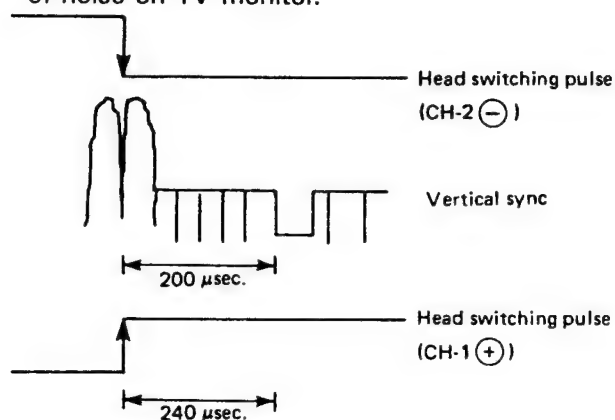

Figure 46.
3. Observe the output of TP701 (head switching pulse) and video output with an oscilloscope, and adjust R7043 (3H slow/still FV sync. control) so that the output level is shown in Fig. 46.
3. Observe the output of TP701 (head switching pulse) and video output with an oscilloscope, and adjust R7044 (2H slow/still FV sync. control) so that the output level is as shown in Fig. 46.